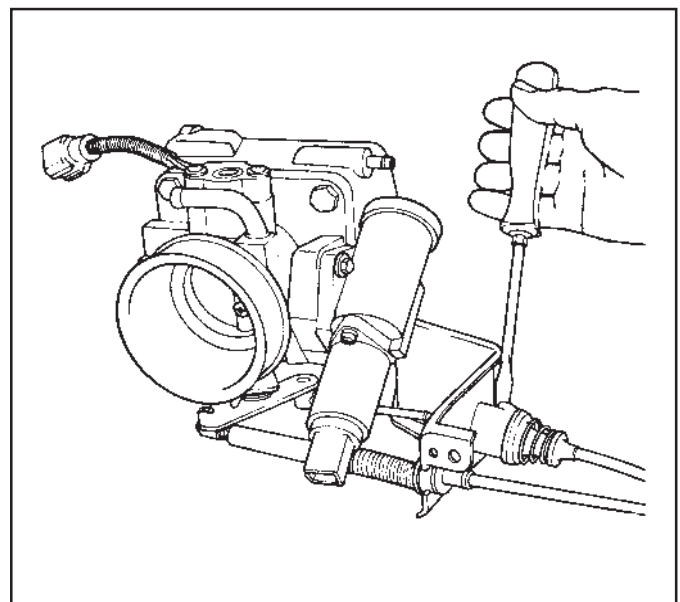

Figure 14
- 5.7 Using a screwdriver or pointed tool, pry up white toggle lever on cable adjuster located immediately behind the throttle body cable mounting bracket. (See Fig. 14.) The adjuster preload spring should cause the adjusting slider to move away from the throttle body and TV pressure should increase.